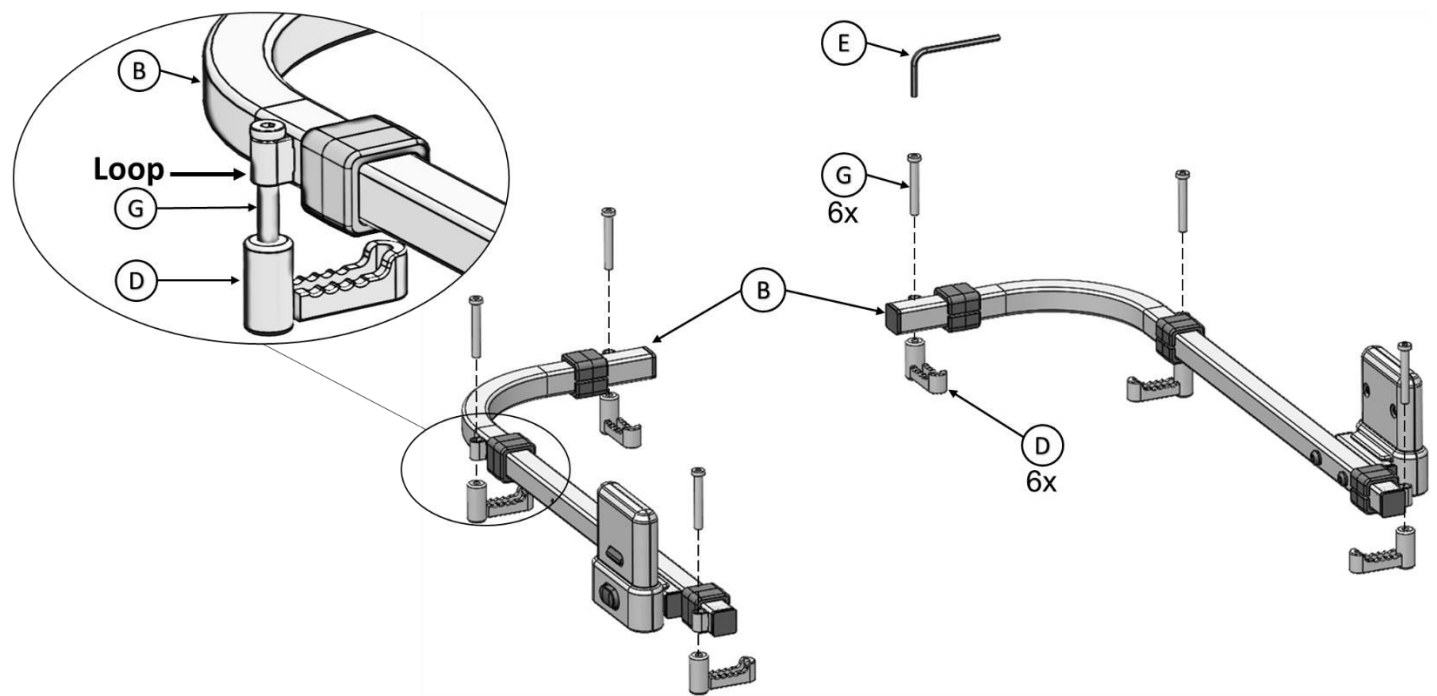

FIGURE 3
3. Insert **G** through the **Loops** in **B** and loosely attach **D** using the tool provided (**E**) as shown in *FIGURE 3*.